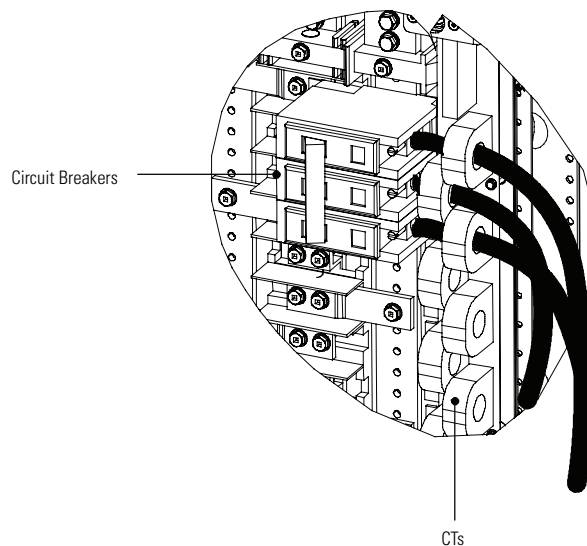

Figure 11. Wiring the CTs (for EMS Premium Metering Only)
Note: If you are installing the optional EMS Premium metering, route branch wiring through the current transformer (CT) opposite the breaker terminal to the breaker lug. Use care when bending and routing the wires through the CTs. See Figure 11.